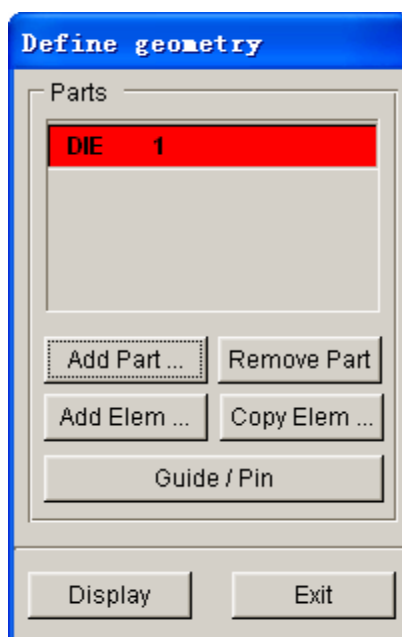

Figure 5.45 Die geometry list
7. Click **OK** button to return to the DEFINE GEOMETRY dialog box. **DIE** part is added to the list of die. See Figure 5.45.